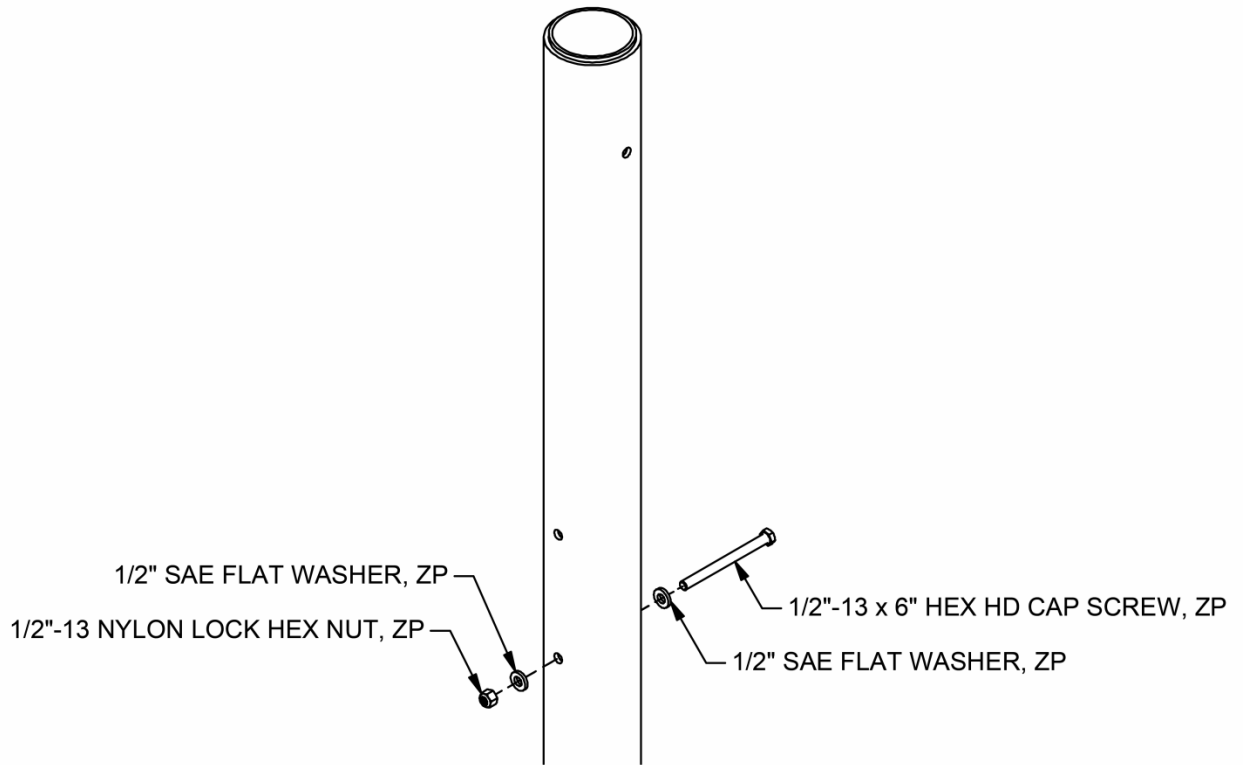

FIGURE: 4
2. Install the "safety stop bolt" hardware into the third hole from the top (see figure 4). This will allow the top pole to rest inside the lower foul pole during assembly.